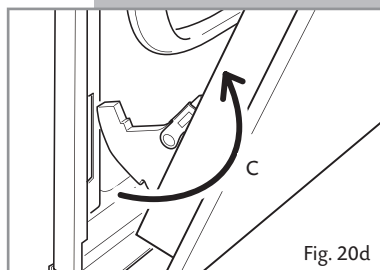

Fig. 20d
- Withdraw the hinge hooks from their location following arrow **C** (fig. 20d).